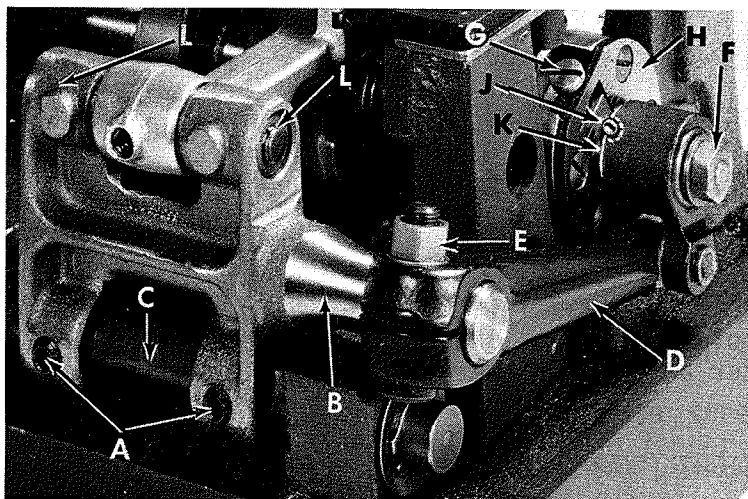

Fig. 11
Should it be necessary to move the feed dog to the left or right, loosen screws (A, Fig. 11) which hold the feed rocker (B) onto the feed rocker shaft (C), and move feed rocker to desired position and retighten screws. Make sure the feed rocker arm (D) does not bind after making this adjustment.
Should it be necessary to move the feed dog forward or backward, loosen nut (E, Fig. 11) which clamps the feed rocker arm to the feed rocker and move the feed rocker forward or backward as needed and retighten nut.
Set the stitch to required length. This is accomplished by loosening locknut (F, Fig. 11) $\frac{1}{2}$ turn (it has a left hand thread) on the end of the stitch regulating stud and turning the stitch adjusting screw (G) located under the left end of the cloth plate, in the head of main shaft (H), which is marked with "L" and "S". Turning the screw clockwise shortens the stitch (moves stitch regulating stud toward the "S") and turning it in a counterclockwise direction lengthens the stitch (moves stitch regulating stud toward the "L"). Retighten locknut securely. To prevent destructive damage to the feed drive bearing, Key screw (J) must engage the "U" shaped key slot in ferrule (K).
Machines having needle bearings in the feed rocker at locations (L, Fig. 11) may require repacking after years of service. Bearings should be thoroughly cleaned and repacked with Union Special Corporation grease No. 28604 P.